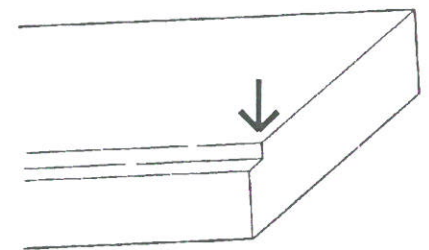

Fig.19
7. Turn the stock rabbet-side up and facing toward you. Measure from the back vertical edge of the rabbet along the miter cut. See Fig.19. The length you will measure will be the actual width of the picture.